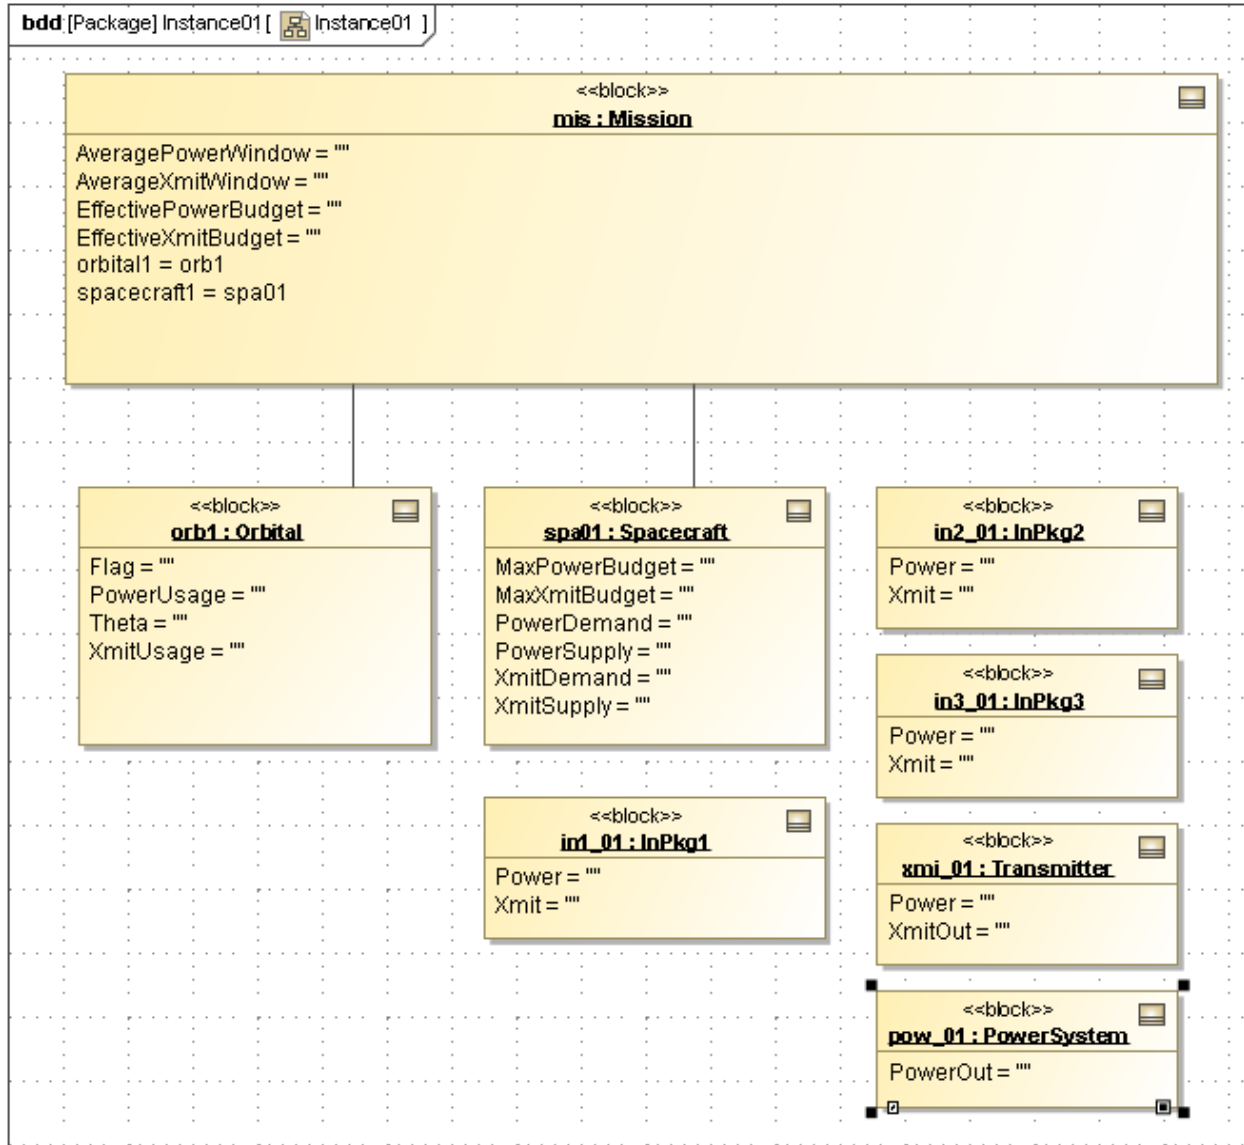

Figure 6.11 Instance01 Diagram
- c. Create the instances of the model elements as shown in Figure 6.11 by dragging Instance from the toolbar, selecting the block it will be an instance of from the Select Classifiers window, and assigning the instance block a unique name.